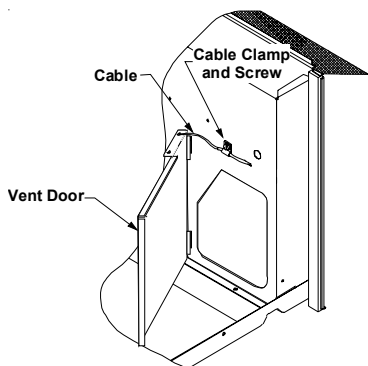

Figure 4
4. Disconnect the cable from the vent door by partially closing the vent door and slightly bending the end of the cable while pulling the Z-shaped end out of the hole in the top of the door (Figure 4).